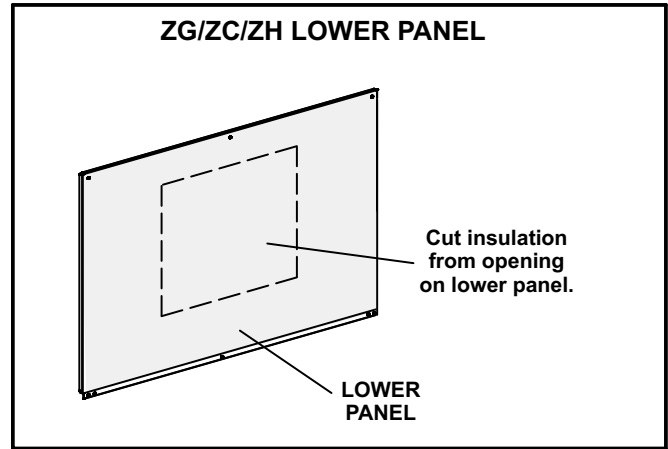

FIGURE 4
- 3- Cut insulation from opening in lower panel. See figure 4.